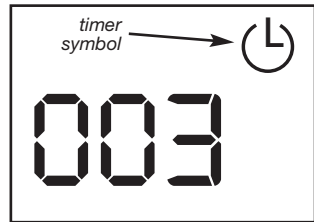

Fig. 3d
8. When the water comes to a boil the display will switch from the kettle symbol to the timer symbol (Fig. 3d). The timer symbol will blink for three seconds (default). Then the display changes back to the kettle symbol (not blinking) and the heater shuts off.
- Push the program button again. The display shows the timer symbol and 003 (Fig. 3d).